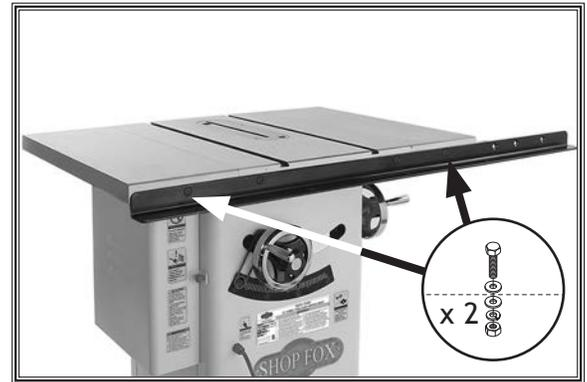

Figure 22. Front rail attached to extension wings.
- Attach front rail to extension wings with (2) M10-1.5 x 35 hex bolts, (4) 10mm flat washers, (2) 10mm lock washers, and (2) M10-1.5 hex nuts, as shown in **Figure 22**. Finger tighten fasteners for now.